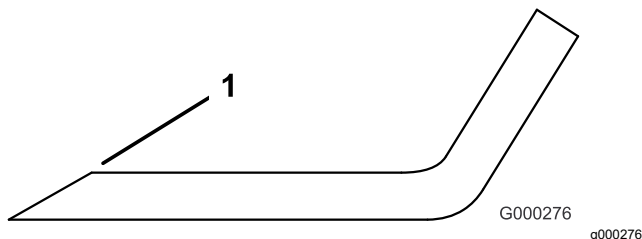

**Figure 90**
2. Examine the cutting ends of the blade carefully, especially where the flat and curved parts of the blade meet (Figure 90).
**Note:** Because sand and abrasive material can wear away the metal that connects the flat and curved parts of the blade, check the blade before using the mower. If you notice wear (Figure 90), replace the blade.